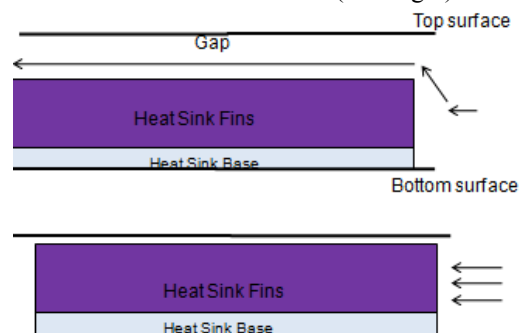

Fig.8 The air is forced to heat sink
- The air must be forced to go through the heat sink. If there is a significant gap between the heat sink and the top surface of the enclosure air will bypass the heat sink. The heat transfer efficiency will be affected too much in forced convection (See Fig.8).